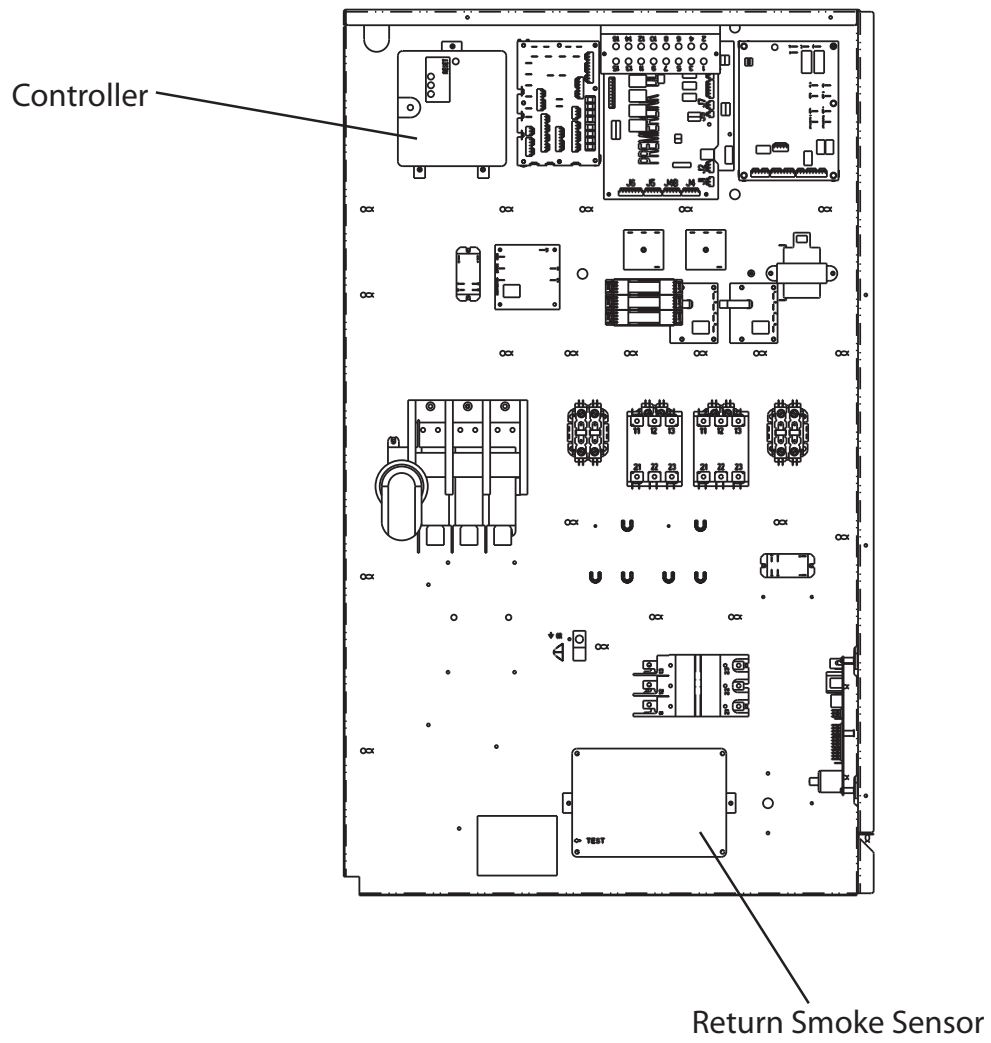

Fig. 6 - Return Smoke Sensor
The smoke detector comprises a controller and one or two sensors. Its primary function is to shut down the rooftop unit in order to prevent smoke from circulating throughout the building. It is not to be used as a life saving device. When these smoke detectors are factory installed on the units listed above, no additional sampling tubes are required to be field installed. (See Fig. 6.)
7. Complete the wiring of the harness into the unit control terminal board as shown in wiring diagram. (See Fig. 6.)